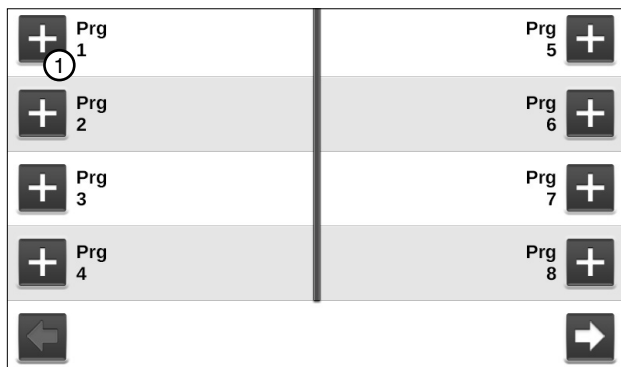

Figure 150-2 Sector Program Screen
1. Push **Menu**, **Programs**, and **Sector Programs** to view the Sector Programs screen. Refer to Figure 150-2.